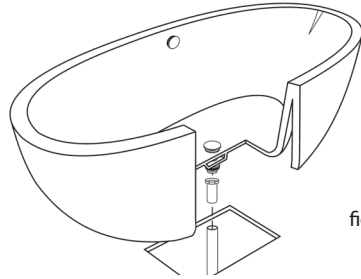

figure 7
15. **Carefully** set tub into position (figure 7) and connect the drain hardware (previously installed).